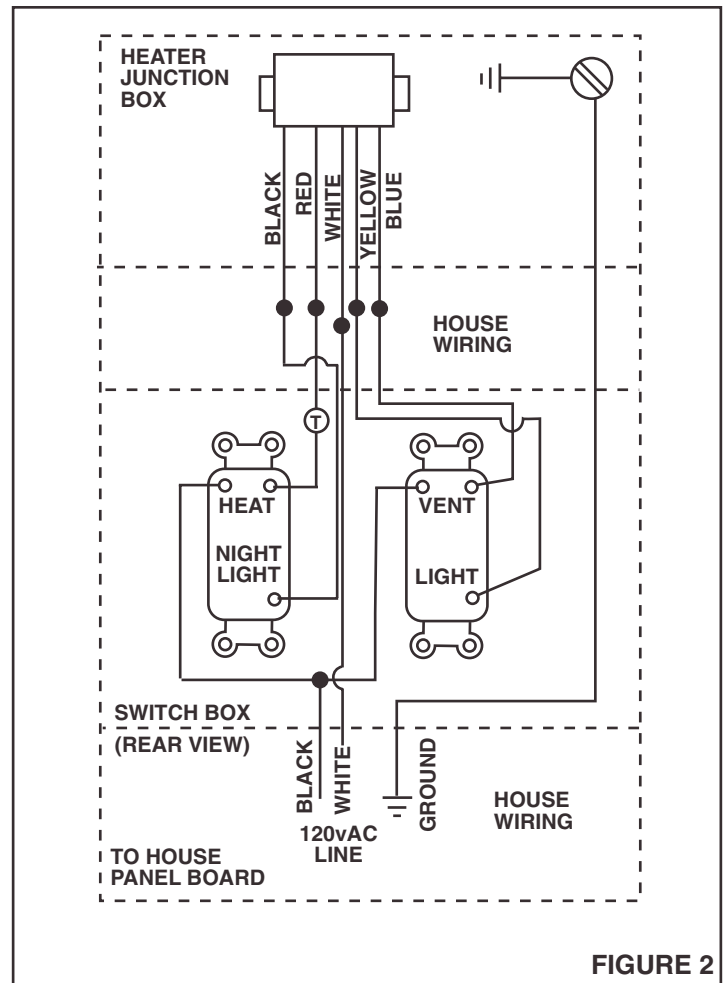

FIGURE 2
1. **Refer to Figure 2.** Run 115-120 Volts (20 amp circuit only) 12 gauge wire from heater's junction box to wall switch.